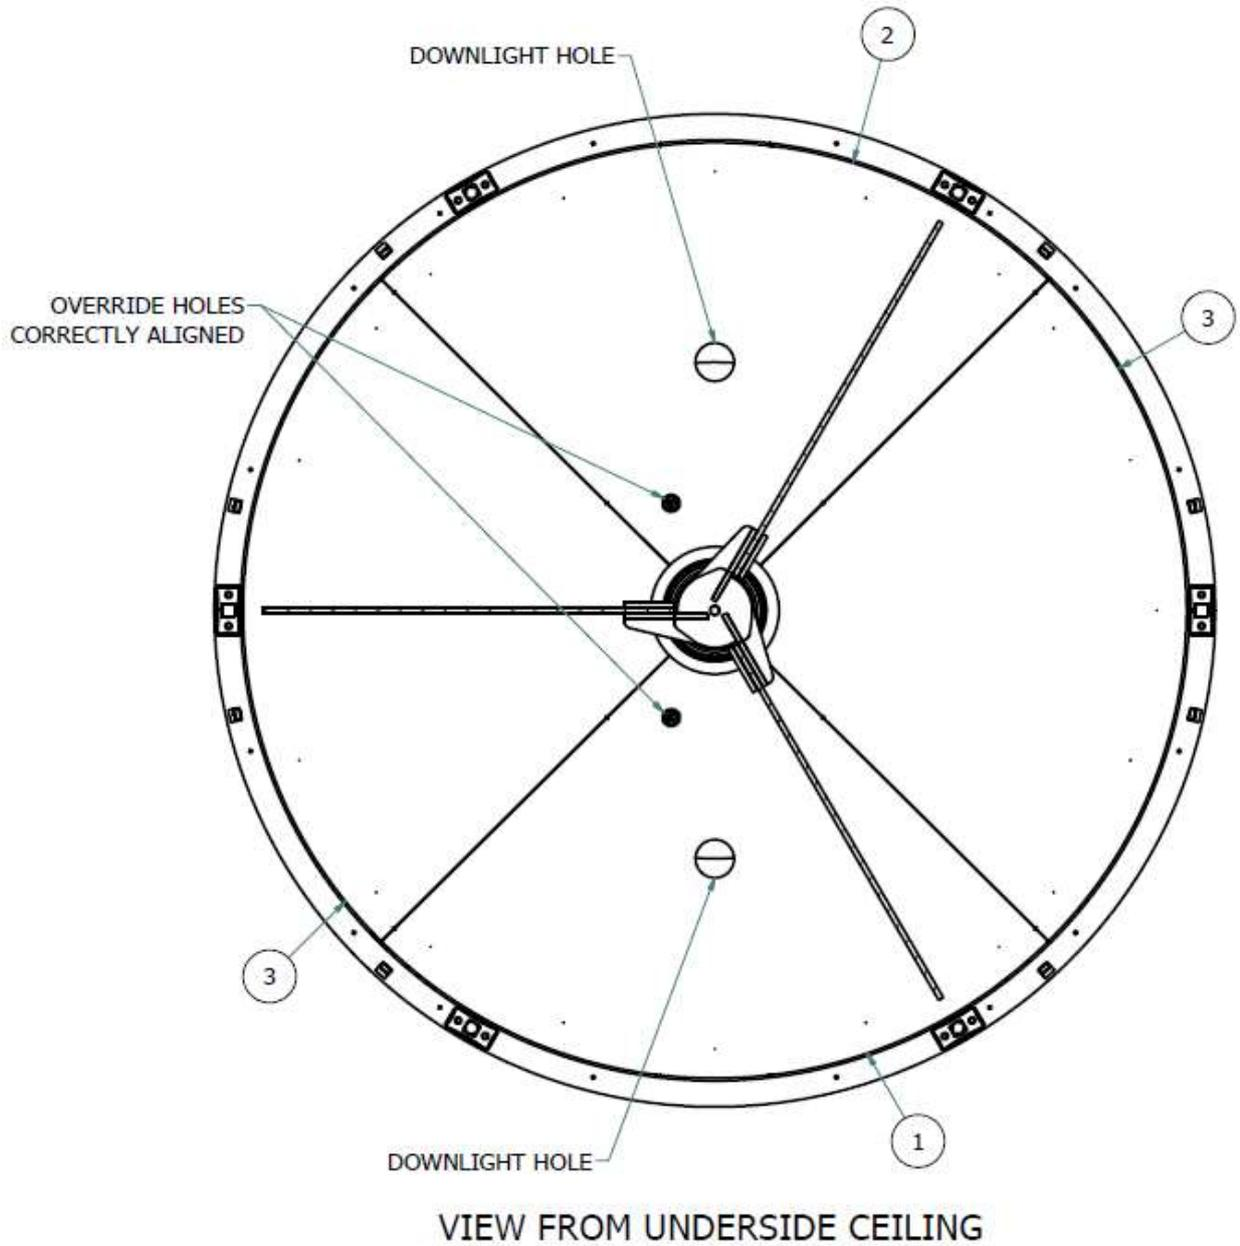

Figure 20: Ceiling placement
- 5.29. Ensure all ceiling plates align to the override keys and downlights before locking in place. See *Figure 20*.